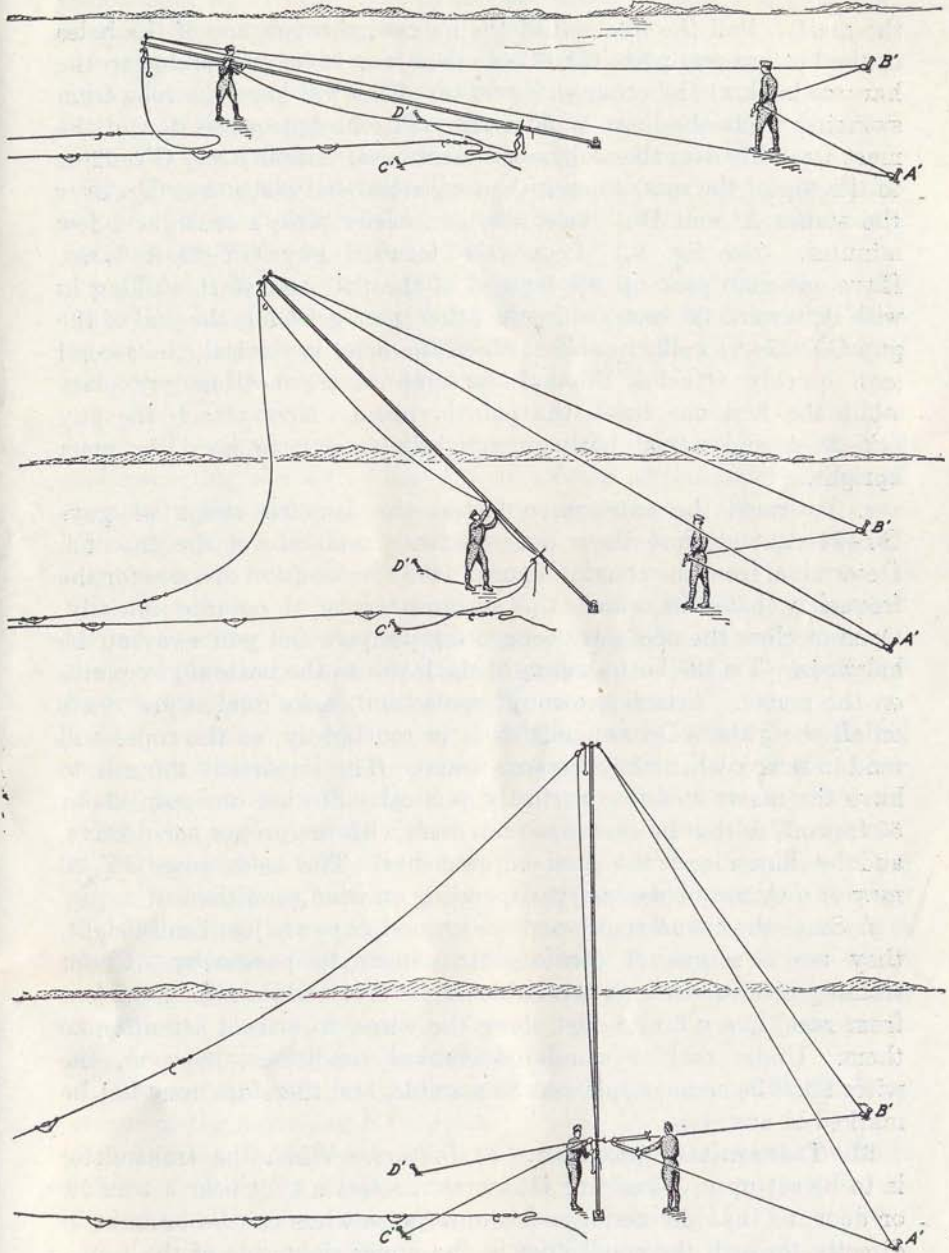

FIGURE 9.—Three steps in erection of mast for radio set SCR-188-A.
*c.* The two masts are erected and guyed in the same manner. Study figures 8 and 9 closely before proceeding. Locate the forward stakes C' and D' (fig. 9) as follows: Find the branch of guy GY-23-A that has a woven-in marker thread indicating 10 feet. Hook the ring of this branch over the mast-base stake nearest the intended position of C' or D', swing it out to form an angle of approximately  $45^\circ$  with the line of the antenna, and drive in a stake at the 10-foot point. The stakes A' and B' for the back guys are about 22 feet from the mast base and also at an angle of  $45^\circ$  to the antenna line.
the mast. Pull the free end of the halyard through one of the holes in the bottom guy plate GY-21-A, tie a loop in its end, and snap the harness hook at the other end over it. This will keep the rope from swinging while the mast is going up. Fit the bottom section of the mast assembly over the stub on the mast base. Attach a guy GY-22-A to the top of the mast, loosen the long rope, and place the rings over the stakes A' and B'. Two men can easily raise a mast in a few minutes. (See fig. 9.) Leave the forward guy GY-23-A loose. Have one man pick up the far end of the pole and start walking in with it, toward the base, while the other man, grasping the end of the guy GY-22-A, walks in also. When the mast is vertical, the second man quickly attaches the harness snap to the bottom guy plate while the first one holds the pole in place. Now attach the guy GY-23-A and adjust both guys tightly enough to keep the mast upright.